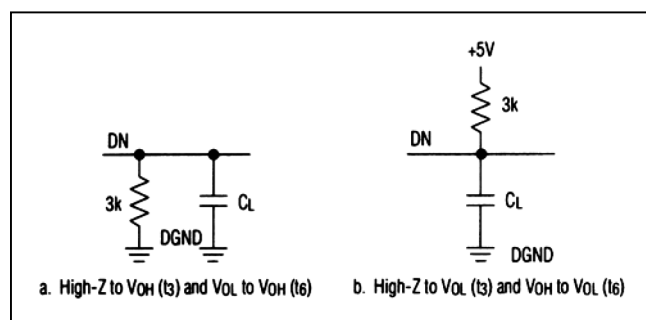

Figure 1. Load Circuits for Access Time
**Note 4:** t3 and t6 are measured with the load circuits of Figure 1 and defined as the time required for an output to cross +0.8V or +2.4V.